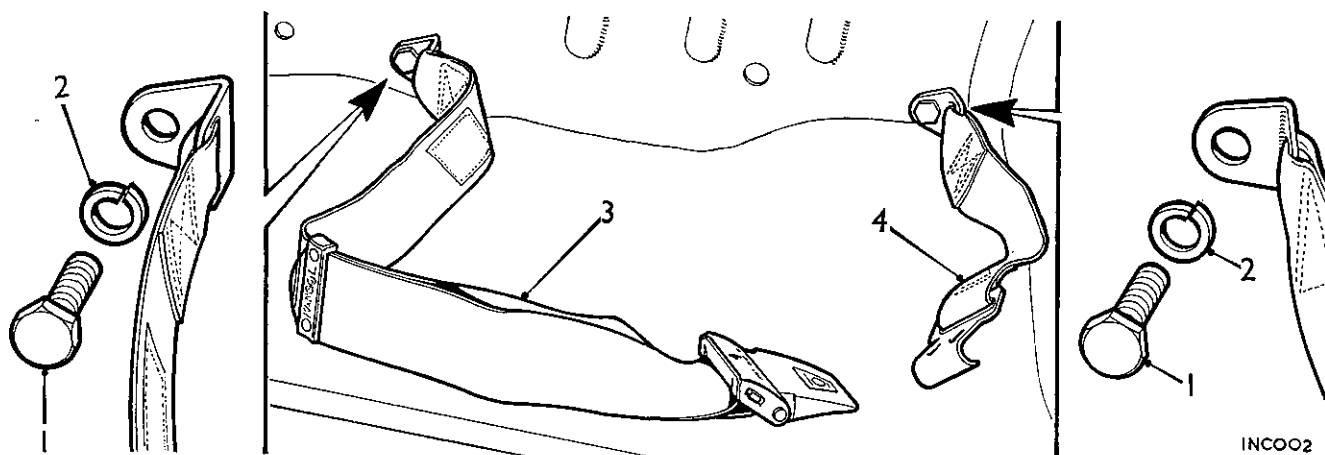

Fig. Rb.16
- (1) Remove the rear seat cushion and squab.
- (2) Remove the belt bracket retaining screws (1) with their spring washers (2), see Fig. Rb.16.
- (3) Reverse the order of the removing procedure, noting that the longer section of the belt is fitted to the fixing point nearest to the centre line of the car, see Fig. Rb.16.
- (4) Ensure that a spring washer is fitted under the head of each bracket retaining screw; align the brackets as shown in Fig. Rb.16 and tighten the retaining screws to a torque figure of 25 lb. ft. (3.5 kg. m.).